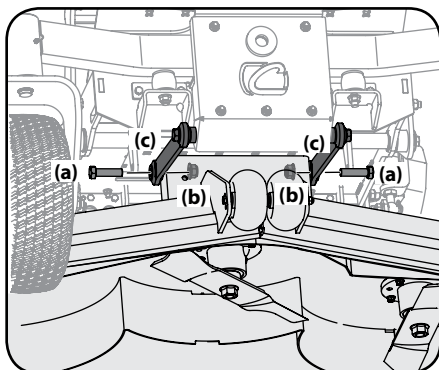

Figure 4-13
6. Remove the hex screws (a) flange lock nuts (b) securing the front deck control rods (c) to the deck. See Figure 4-13.